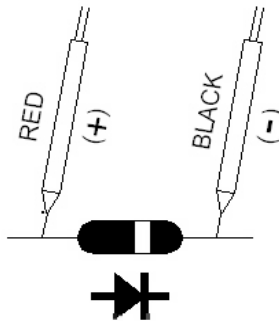

Fig. 2
- 5)a. When connected with polarity as shown in Fig. 2, a forward current flow is established and the approx. Diode Forward Voltage (VF) value in volt will appears on the display reading. If the diode under test is defective, " .000 " or near " .000 " value (short circuit) or " OL " (open circuit) will be displayed.